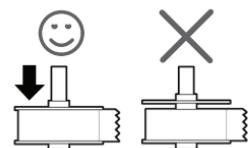

Figure 8
- NOTE** *The label roll must fit snugly against both sides of the label spool, with no gaps, to avoid drifting as the labels feed through the printer. See Figure 8.*